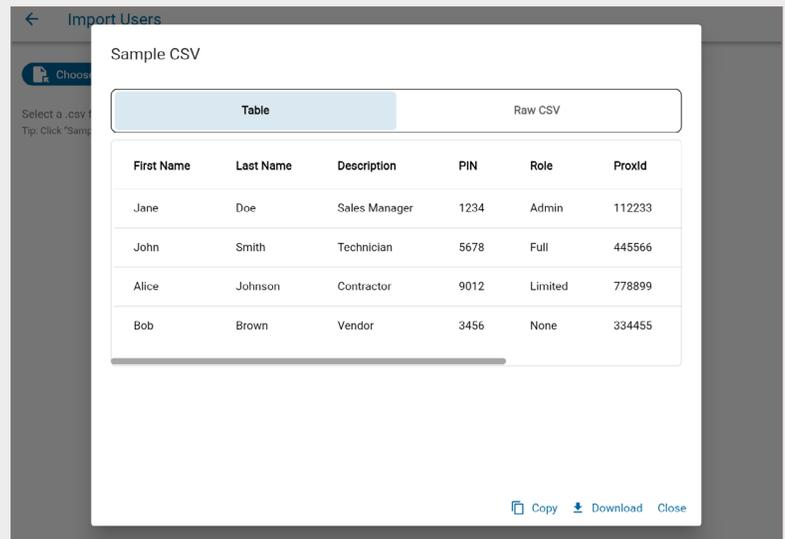

Fig. 214 – Import Users screen with Upload CSV button indicated
**Note:** You can view the CSV format and access a template by selecting **Sample CSV**. In the **Sample CSV** window (shown in Fig. 214), select **Copy** to copy the template. In **KEYper GO Web**, click **Download** to download an Excel version. When finished, click **Close**.